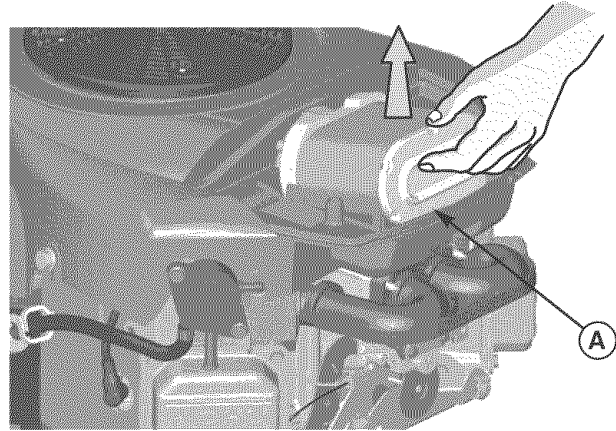

Figure 33. Air Filter Removal
2. Locate the air filter cartridge (A, Figure 33). Pull up on the front edge of the cartridge until it snaps out of place.